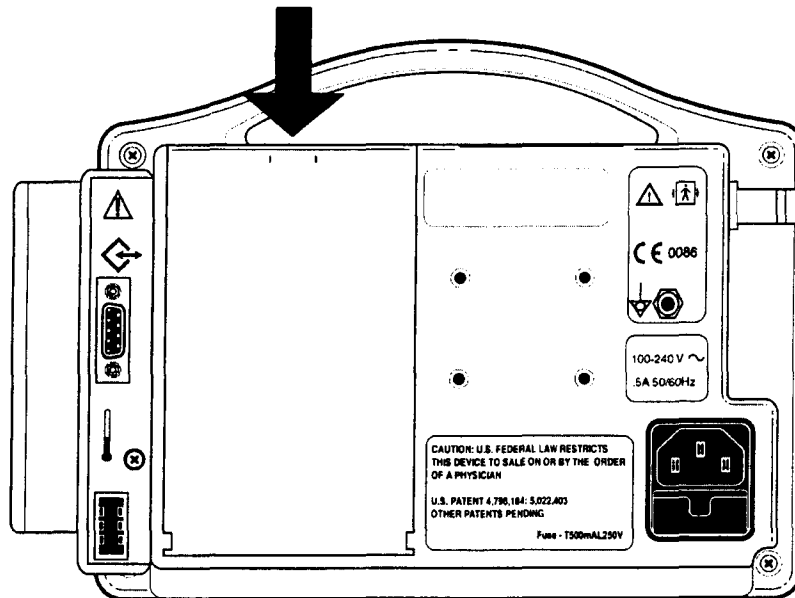

Figure 24: Removing the Monitor Battery Pack
- 3) Carefully remove the battery pack from the rear panel of the monitor. Refer to Figure 24.